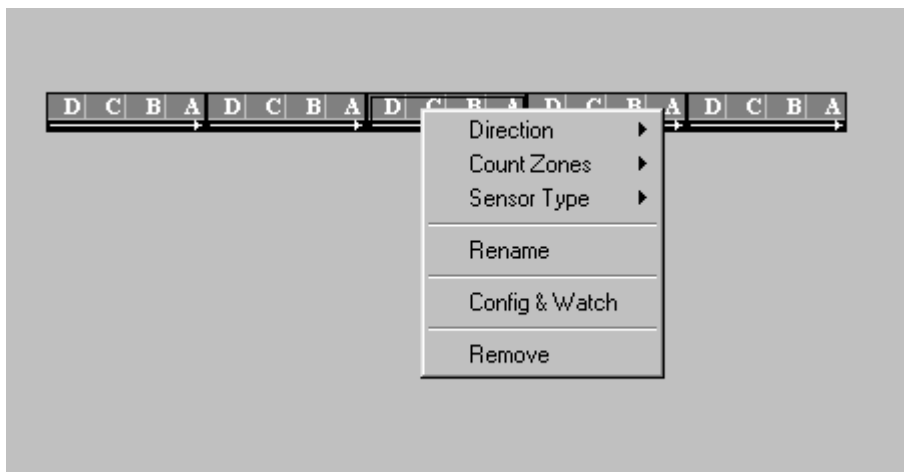

Fig.4.14
- Select the module and Right-click on it to call the drop-down list of alternatives as shown in Fig. 4.14.
- Right click on the module to open the drop-down list – Fig. 4.14.